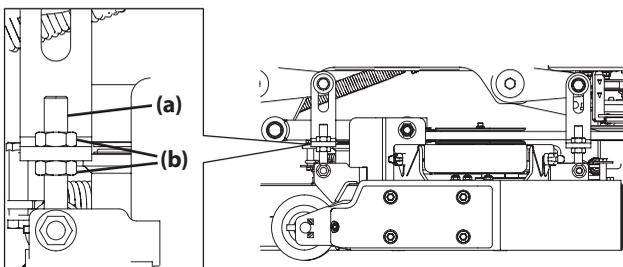

Figure 31
3. Adjust the eyebolt (a) at the left front of the deck so that the blade-to-ground height at the right outside blade tip matches that of the left outside blade tip. This is done by loosening the jam nuts (b) on the eyebolt (a) and tightening the upper jam nut (b) to raise the deck and loosening the jam nut (b) to lower the deck. The right outer blade tip height is fixed by the right, front eyebolt (a) so you must adjust the left outer tip to match it (Figure 31).
3. Loosen the jam nuts (b) at the rear left and right of the deck eyebolts (a) (Figure 31).